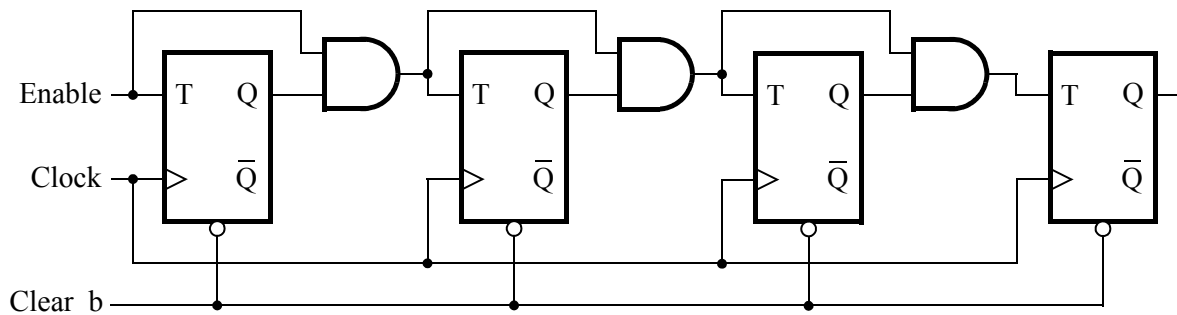

Figure 1: A 4-bit counter.
Consider the circuit in Figure 1. It is a 4-bit synchronous counter that uses four T-type flip-flops. The counter increments its value on each positive edge of the clock if the *Enable* signal is 1 (*i.e.* high). The counter is reset to 0 by setting the *Clear_b* signal low, which means that the clear is an **active-low asynchronous** clear. You should implement an 8-bit version of this counter.
1. Draw the schematic for an 8-bit counter using the same structure as shown in Figure 1. **(PRELAB)**
7. Use the Quartus Prime RTL Viewer to see how the Quartus Prime software synthesized your circuit. You can access the RTL viewer on Quartus via Tools -> Netlist Viewers -> RTL Viewer. You can zoom into the various building blocks of your circuit by double-clicking on them, to get more information about their implementation. What are the differences in comparison with Figure 1? (PRELAB) about the same